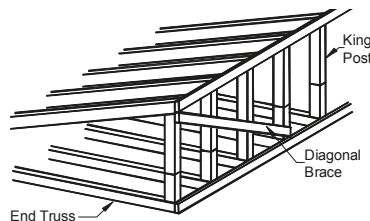

Figure 22. *Typical Diagonal bracing. Also, see hinged roof truss installation addendum.*
5. **Install Bracing.** Install diagonal bracing at both ends of each home section from the top of the gable end truss approximately 45 degrees downward. Keep trusses plumb and secure the brace with two (2) 7/16" x 1-3/4" x 16 ga minimum staples per truss (**Figure 22**).